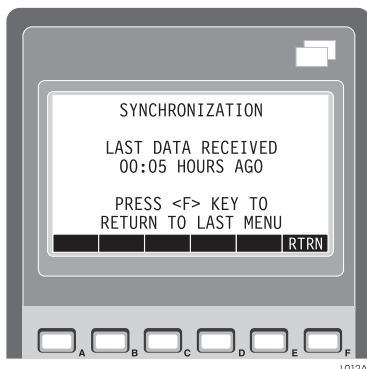

Figure 3.20: Time Screen
6. Press the **E (TIME)** key to check how long ago the data were obtained. The Time screen appears (Figure 3.20).